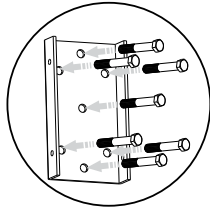

figure 1
1. Attach the Wall Mounting Bracket to the required height using appropriate fasteners (figure 1).